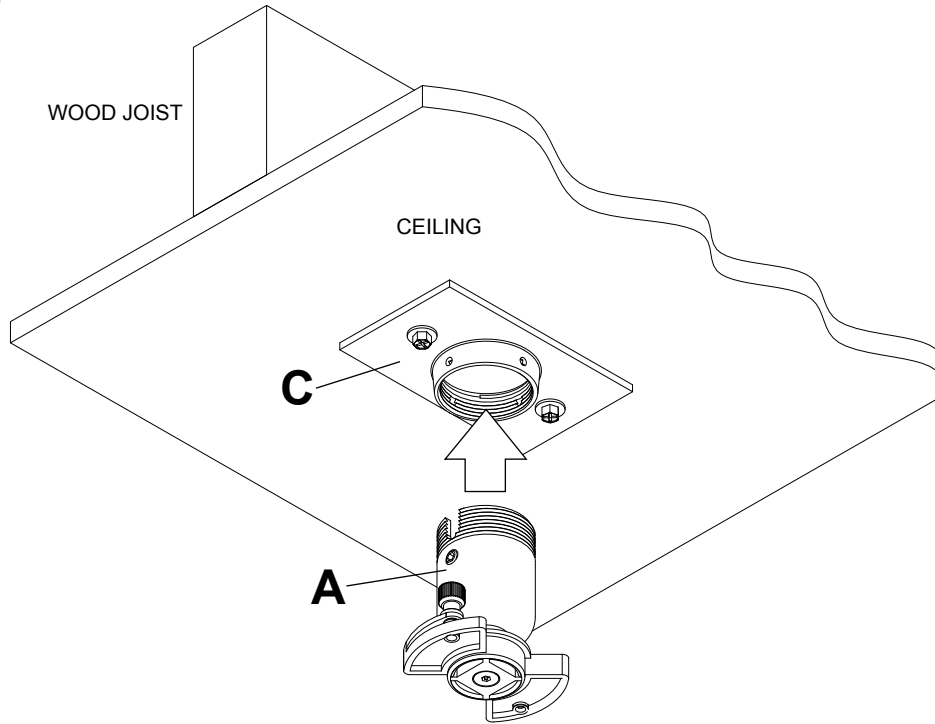
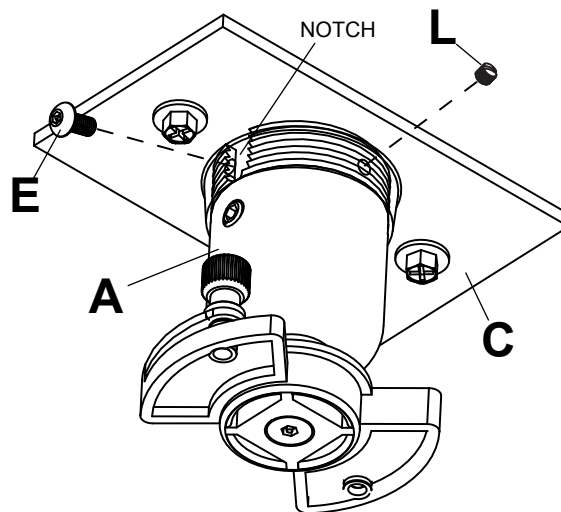

figure 3.1
figure 3.2
- 3** Screw ball and socket mount (A) into ceiling plate (C) as shown in **figure 3.1**. Align the notch with one of the four holes of the ceiling plate (C) and secure ball and socket mount (A) with a M5 x 10 mm socket pin screw (E) using security allen wrench (U) as shown in **figure 3.2**
**NOTE:** Slotted set screw (L) is used to jam against the threads of the ball and socket mount to prevent any excess movement of the ball and socket mount (A). Do not overtighten screw; overtightening screw will damage threads making it difficult to separate the products.